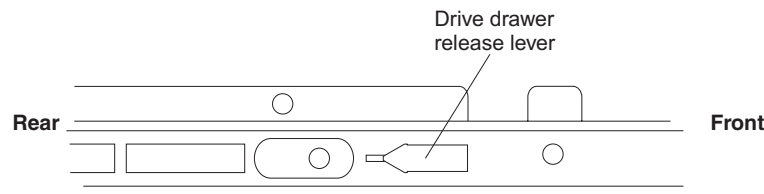

Figure 90. Drive drawer release lever on the side of the drive drawer
- d. Slide the drive drawer release lever (see Figure 90) on both sides of the drive drawer toward you, and remove the drive drawer from the enclosure.